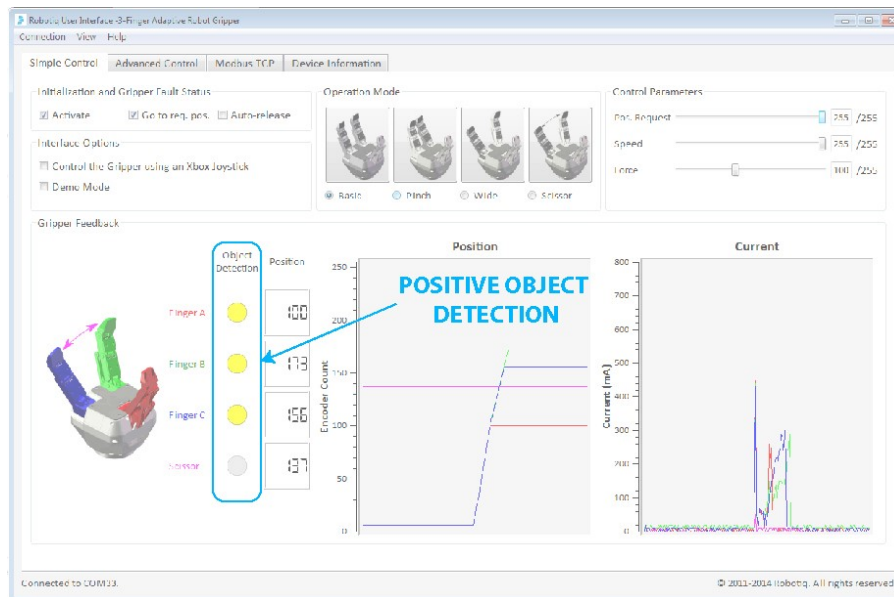

Figure 5.1.5.1 : Positive object detection is registered when the object detection dot turns yellow.
- **Object Detection:** If the Gripper detects a contact with an object when closing, the "Object Detection" display turns yellow on the corresponding finger (see Figure 5.1.5.1). Object detections are displayed independently for each of the three fingers and the scissor axis.